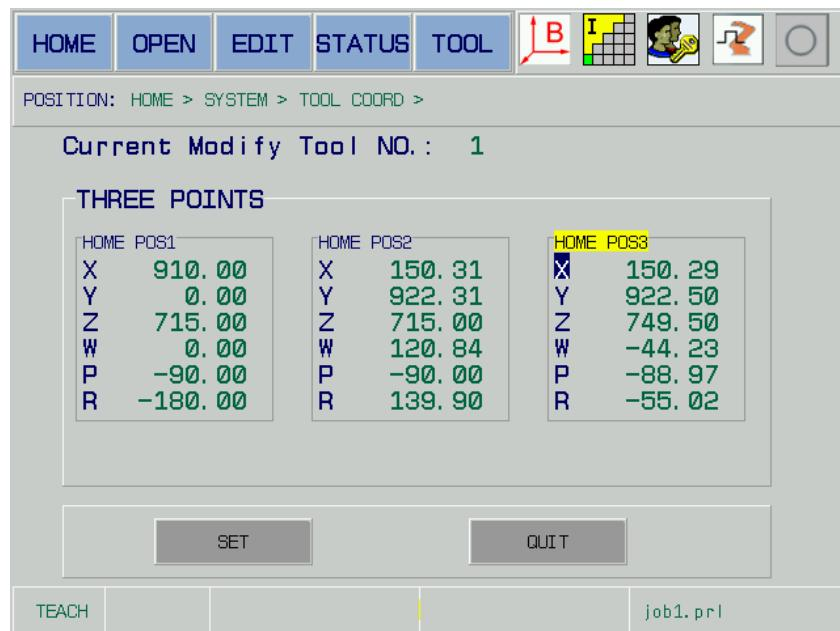

Fig. 8-4
**Step three:** If the wrong point-capture occurs during its operation procedure, try it again; refer to the Fig. 8-4: